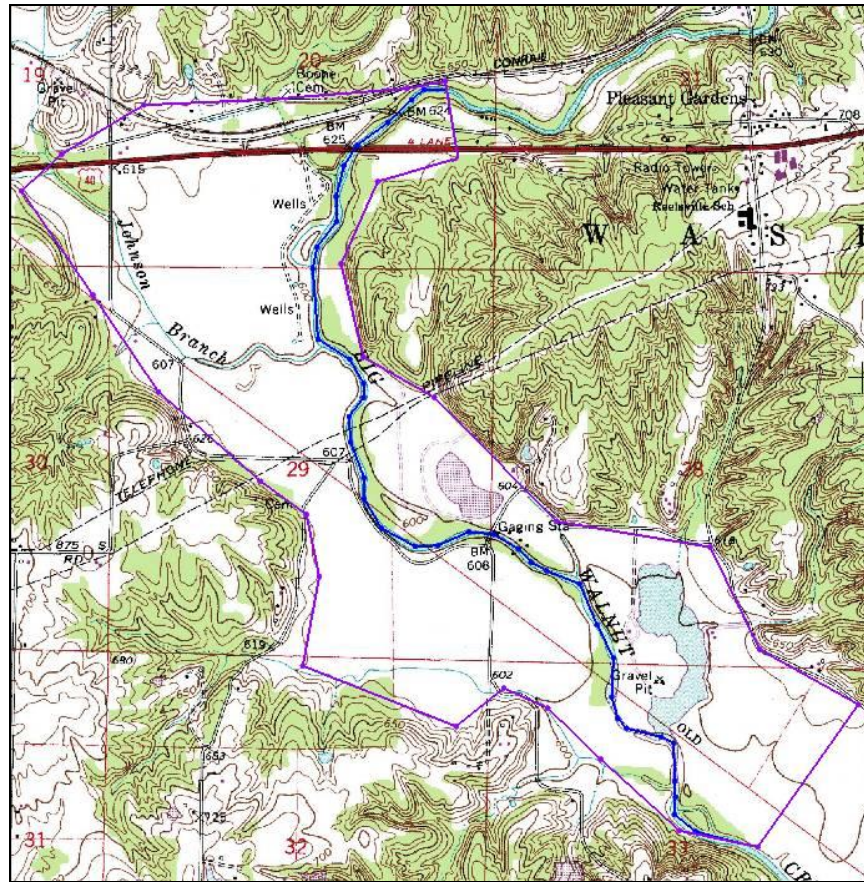

Figure 6 Modeling the river
5. Select the **Create Arc**  tool and click out the river arc starting near the northern specified head boundary and ending near the southern specified head boundary, as shown in Figure 6 below. Don't extend the river beyond the boundary coverage.